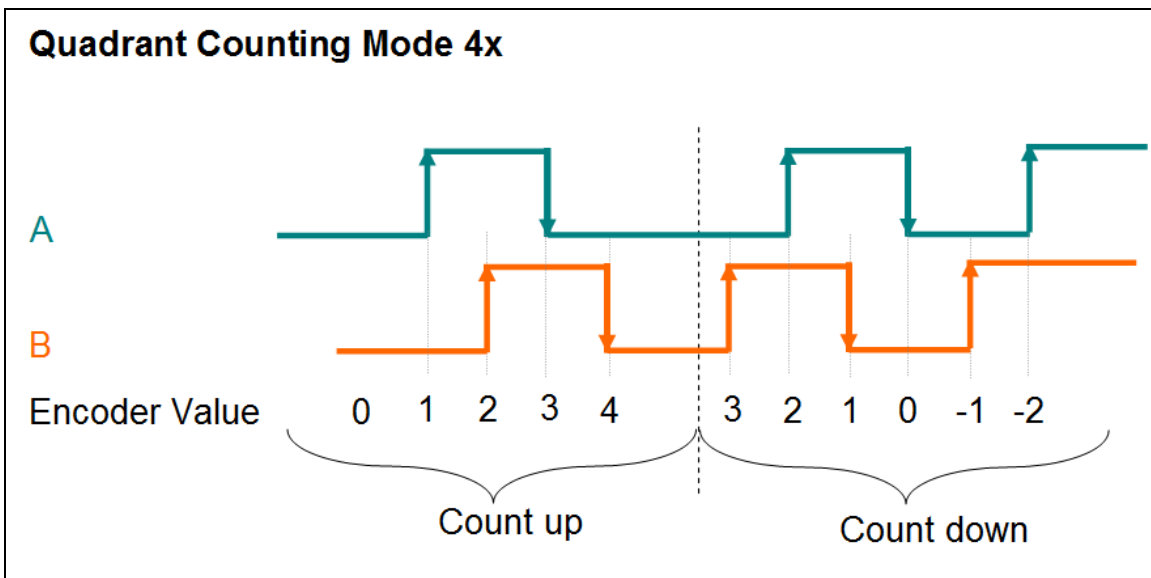

Figure 27: Quadrant counting mode
In the **quadrant counting mode** (Figure 27) the encoder counter increments when signal "A" leads signal "B" and decrements when signal "B" leads signal "A". For example if the last input signal for both "A" and "B" was off and in the next cycle "A" is on and "B" is off then the direction is clockwise and the counter increments by one, but if "A" is off and "B" is on then the direction is counterclockwise and the counter decrements by one. Both the rising and falling edges of "A" signal and "B" signal are counted.
- By changing the polarity of signal "A" for the quadrant counting mode (Figure 27) results in a change of counting direction.